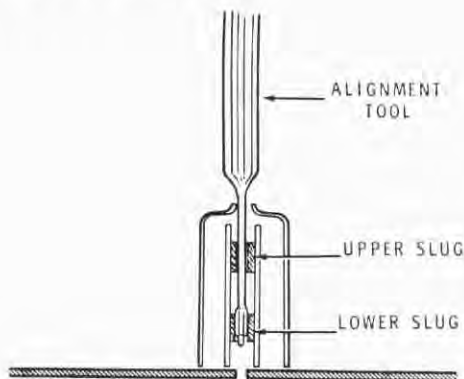

Figure 2-8
- () Refer to Figure 2-8 and adjust both the upper and lower slugs in transformer T3 for a maximum reading on the voltmeter. Start with the slug closest to the circuit board. Keep reducing the generator output as the slugs are tuned so that a minimum recognizable reading is maintained on the voltmeter.